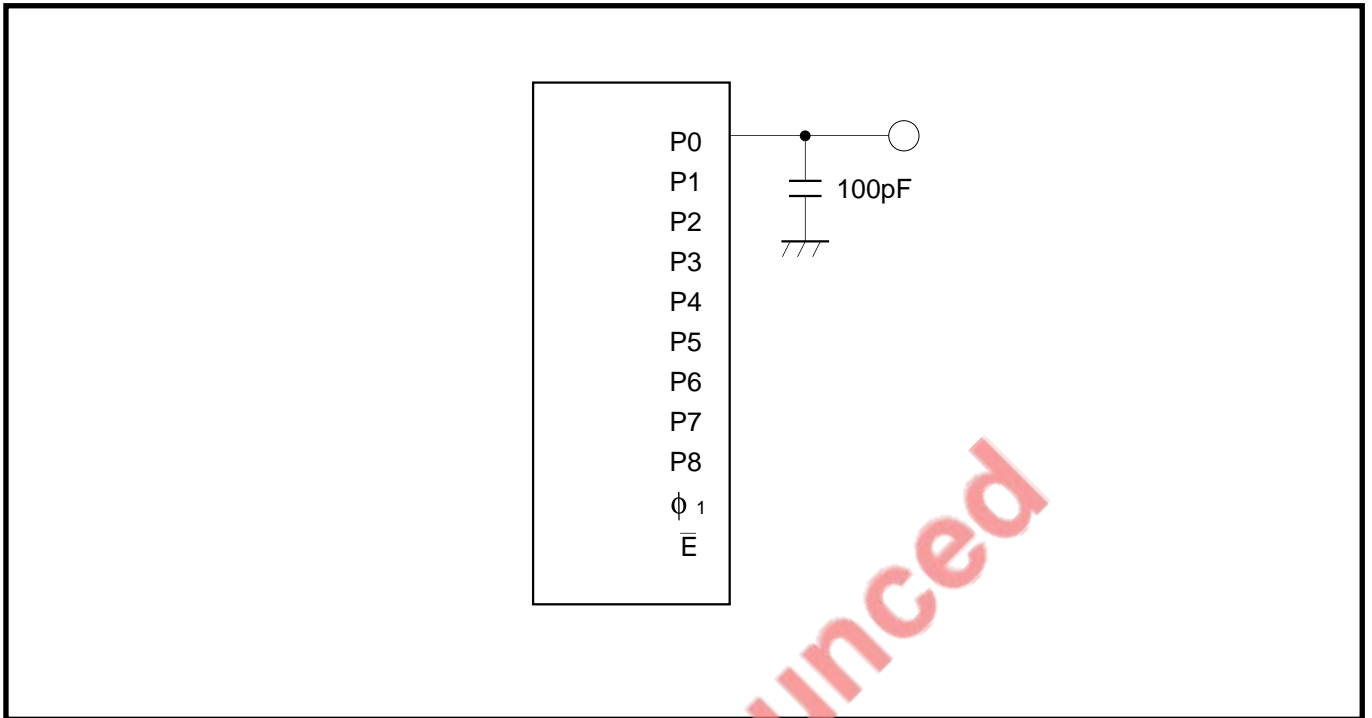

Fig. 15.10.1 Testing circuit for ports P0 to P8,  $\phi_1$ , and  $\bar{E}$
**Note:** For test conditions, refer to Figure 15.10.1.
**2:** For test conditions, refer to Figure 15.10.1.